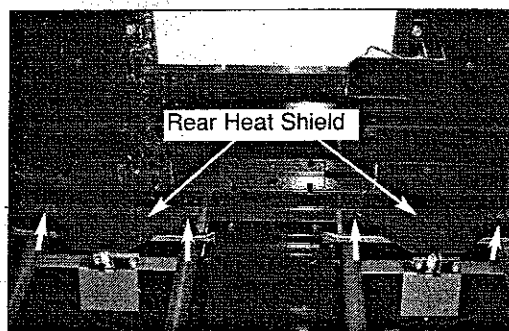

Fig 4
4. Using a 1/4" socket remove the screws holding the rear heat shield and burners in place. (See Fig. 4)
24. Use the screws removed in step 4 to secure the rear heat shields and burners in place. (See Fig. 4 on page 2)